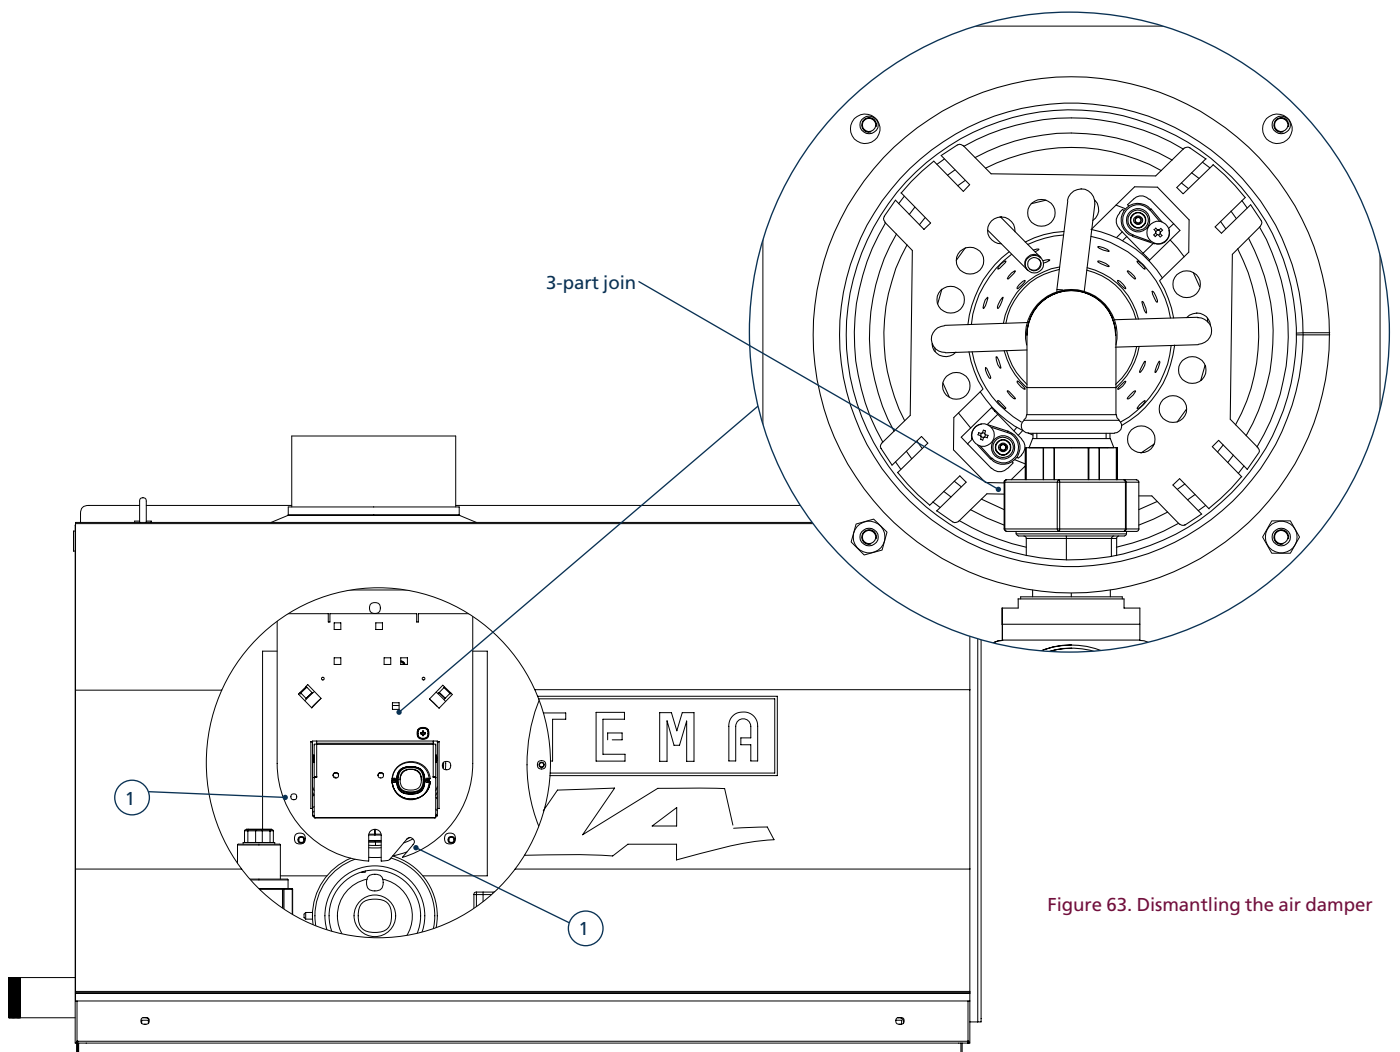

Figure 63. Dismantling the air damper
3. Unscrew the 3-part join that holds the combustion head (see Figure 5 on page 9 and Figure 63 on page 29) remove the diaphragm and replace it with a suitable one for propane gas. If the combustion head is changed, remove it from the combustion chamber, disconnect the connections (ignition and ground) and replace it with the new combustion head. However, before proceeding with replacement, check the new head corresponds to the table in this manual (Table 3 on page 5).